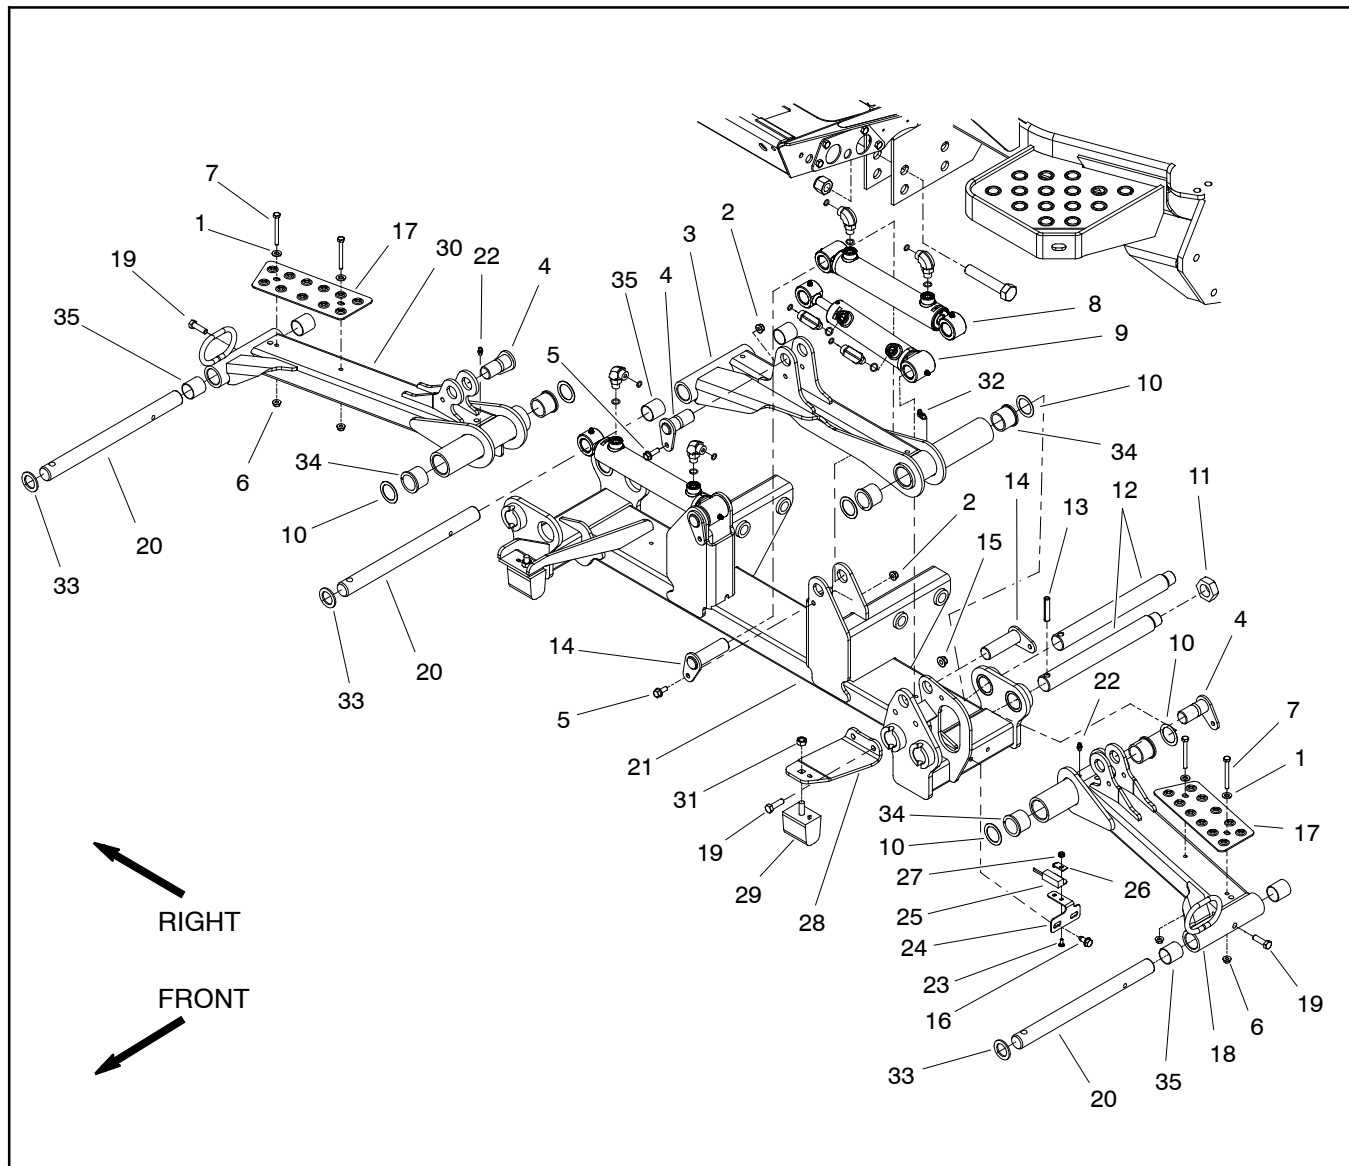
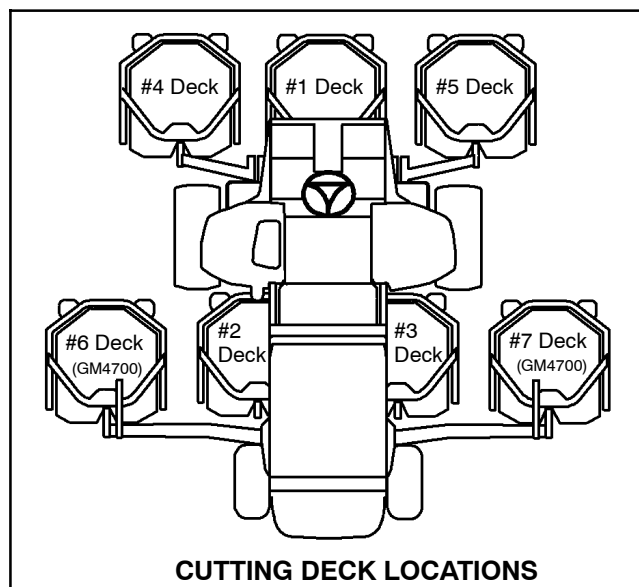
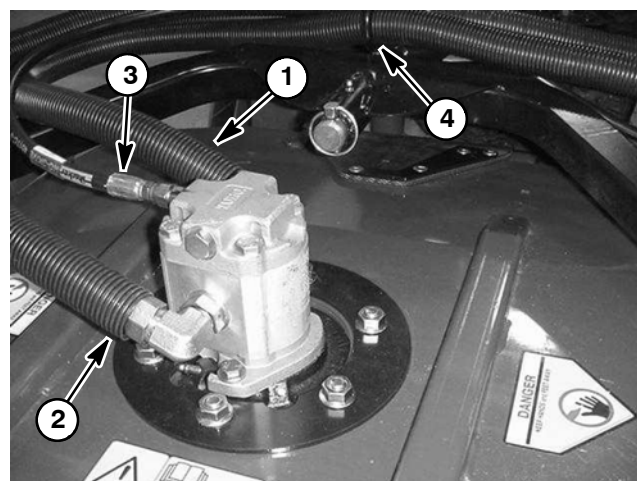

Figure 10
Figure 11
Figure 12
### Removal (Fig 10)
3. If lift arm for either deck #4 or #5 (Fig. 11) is to be removed, clean, label and remove hydraulic hoses from the deck motor (Fig. 12). Place plugs or caps on open fittings and hoses. Slide hoses out of the hose retaining loop on the lift arm.
4. Remove lift cylinder pin (item 4) that secures hydraulic lift cylinder to lift arm.
5. Loosen and remove lock nut (item 11) from lift arm pivot pin.
8. Disassemble lift arm as needed using Figure 10 as a guide.
#### Installation (Fig 10)
1. Assemble lift arm using Figure 10 as a guide.
2. Position lift arm to frame. Fit thrust washer (item 10) between both sides of lift arm and frame. Slide pivot pin into frame and lift arm. Align roll pin in pivot pin with slot in frame flange.
3. Install and tighten lock nut (item 11) to secure lift arm pivot pin.
**NOTE:** Install thrust washer (item 33) on carrier pivot shaft before installing cutting deck on pivot shaft.
6. If lift arm for either deck #4 or #5 was removed, slide hydraulic hoses through the hose retaining loop on the lift arm. Remove caps and plugs from hydraulic hoses and fittings and install hoses to the deck motor (Fig. 12). Make sure that deck is fully lowered to the ground before tightening hoses.